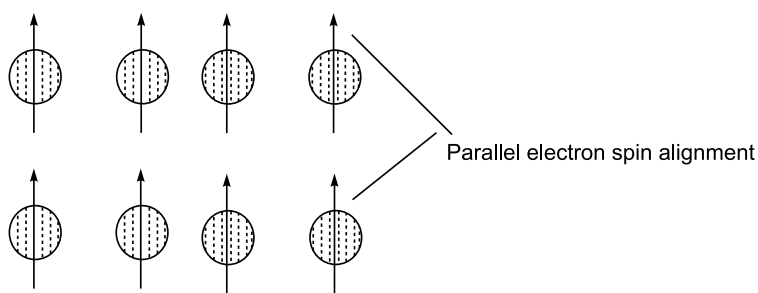

Fig. 4.7 *Electronic spin alignment of ferromagnetic materials under magnetic moment.*
3. Ferromagnetic Materials: The atomic moment in ferromagnetic materials exhibits strong interactions when compared to paramagnetic materials. These materials have a large, positive susceptibility to an external magnetic field. They exhibit a strong attraction to magnetic fields and are able to retain their magnetic properties even after the external field has been removed. Ferromagnetic materials have some unpaired electrons and hence their atoms have a net magnetic moment. These interactions are shown due to electronic exchange forces and ultimately align in a parallel or antiparallel atomic moments. Spin alignment of ferromagnetic material under magnetic field is shown in Figure 4.7. Exchange forces are very high, which is equivalent to a field on the order of 1000 Tesla, or around a 100 million times the strength of the earth's field.